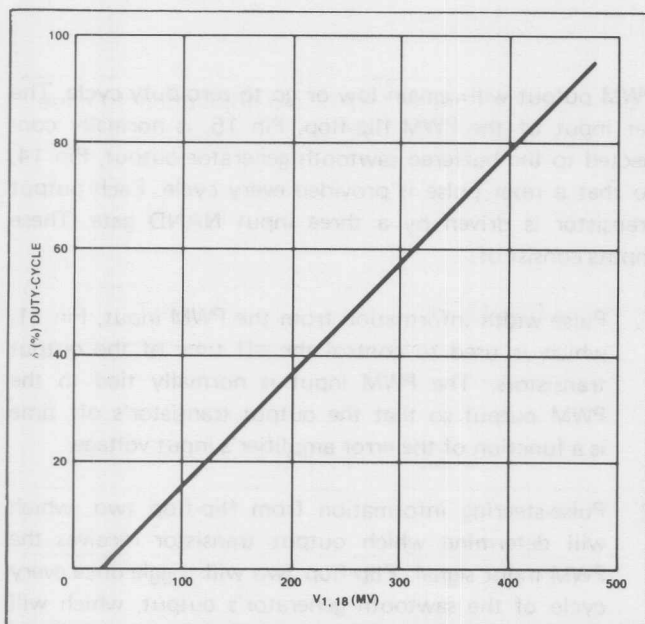

Figure 2. Modulation Duty Cycle vs Error Voltage
**Error Amplifiers** — These are high-gain op amps which are used to sense output conditions, voltage and current, and provide a dc voltage to comparators one and two. This will in turn adjust the PWM output duty cycle and ultimately that of the output transistors to correct for errors in the output voltage or overcurrent conditions. The amplifier's outputs are provided for tailoring the closed-loop gain or frequency response of the system. Figure 2 shows the relationship between output duty cycle, Pins 11 and 12 connected, and the voltage at Pins 1 or 18. Amplifier two is approximately twice as fast as Amplifier one, and should, therefore, be used to sense output current.